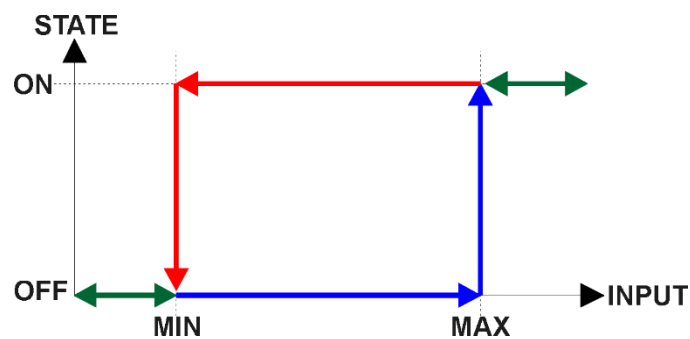

Figure 5 – Analog Input Read as Digital
There is another type of 'digital' input that can be selected when 6112h is set to 20 = Analog On/Off. However, in this case, the input is still configured as an analog input, and therefore the objects from the Analog Input (AI) block are applied instead of those discussed above. (This case applies to all the analog inputs and digital input 5, 7, and 8 which are able to be configured as PWM/Frequency mode) Here, objects 2010h, 2020h and 2030h are ignored, and 6000h is written as per the logic shown in Figure 5. In this case, the MIN parameter is set by object 7120h **AI Scaling 1 FV**, and the MAX is set by 7122h **AI Scaling 2 FV**.